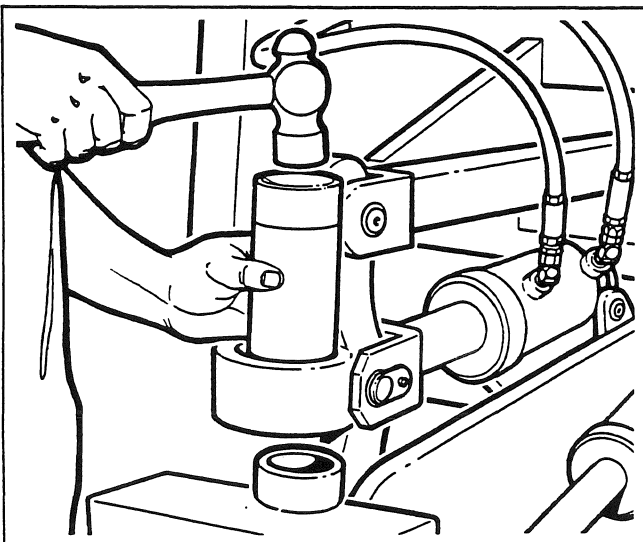

Fig. 9
8. Use a hammer and appropriate tubular drift to remove the two needle roller bearings (51) from the top bore of the knuckle (55) (see Fig. 9).